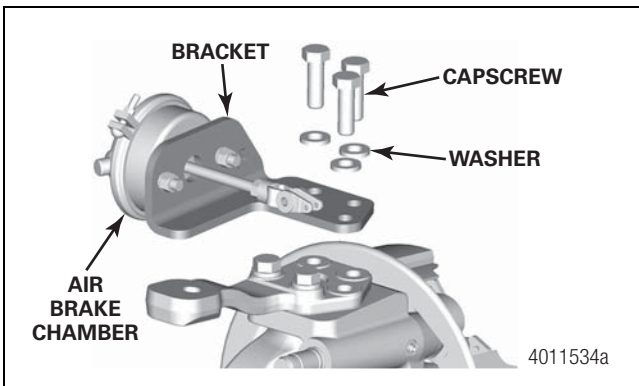
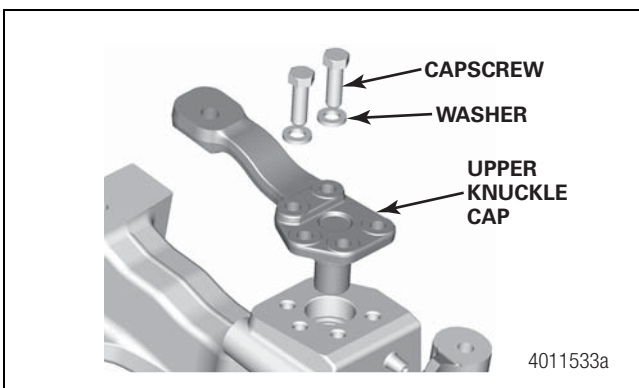

Figure 4.27
Figure 4.28
4. Remove the air chamber mounting bracket. Figure 4.27. Remove the upper knuckle cap from the bore. Figure 4.28. Inspect the cap for wear and damage. Replace damaged or worn parts.